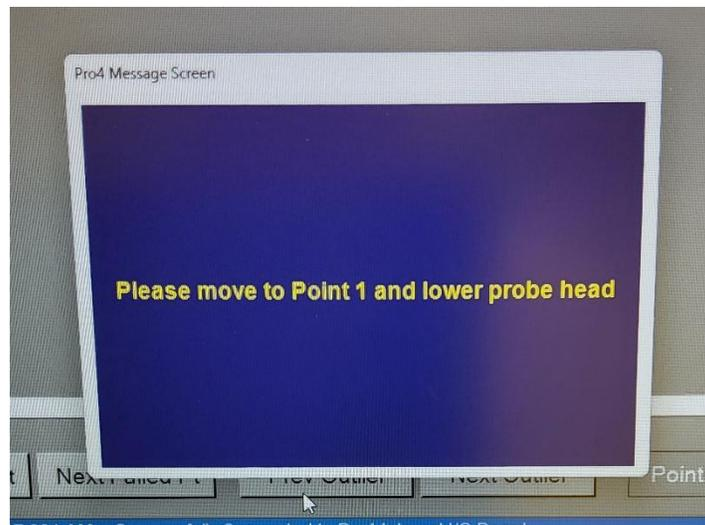

Figure 4
4. After pressing OK another pop up will appear. This pop up is shown in Figure 4. Place the position to be tested under the probe head. Using the lever lower the probe head to make contact with the sample. The test starts automatically.